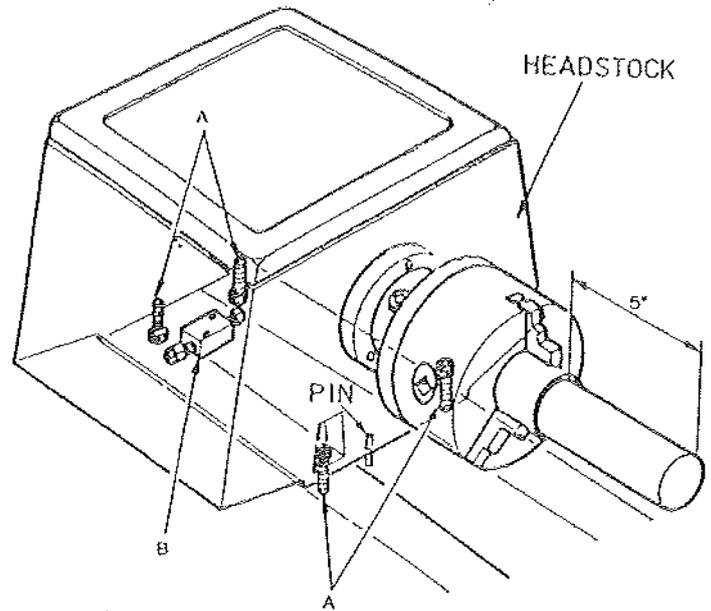

Fig. 24
- Adjust two screw nuts (B, Fig. 24) located on the endgear side of the headstock. Loosen one and tighten the other. Make another cut. Keep adjusting screw nuts after each cut until the bar stock measurements are the same. Tighten all headstock screws.